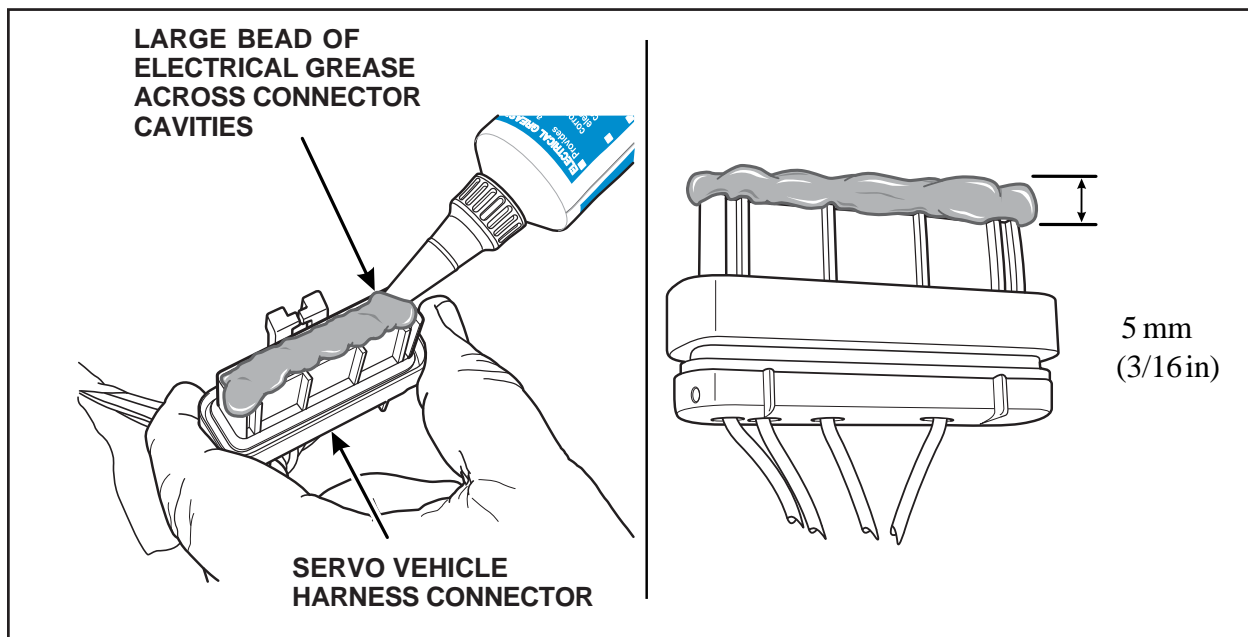

FIGURE 7
3. Apply a 5 mm (3/16 in) high bead of **Motorcraft Electrical Grease II (XG-15-A)** across the entire width and length of the servo vehicle harness connector (See Figure 7).